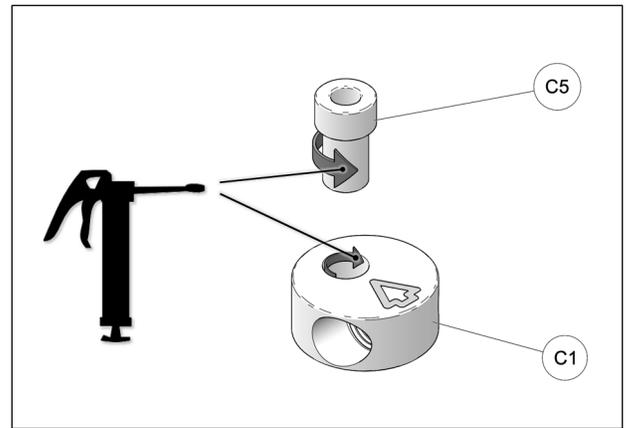

Fig. 23
13. Apply grease evenly all around step spacer bushing (C5) and in hole of aluminum disk (C1) when assembling these parts together. See Fig. 23